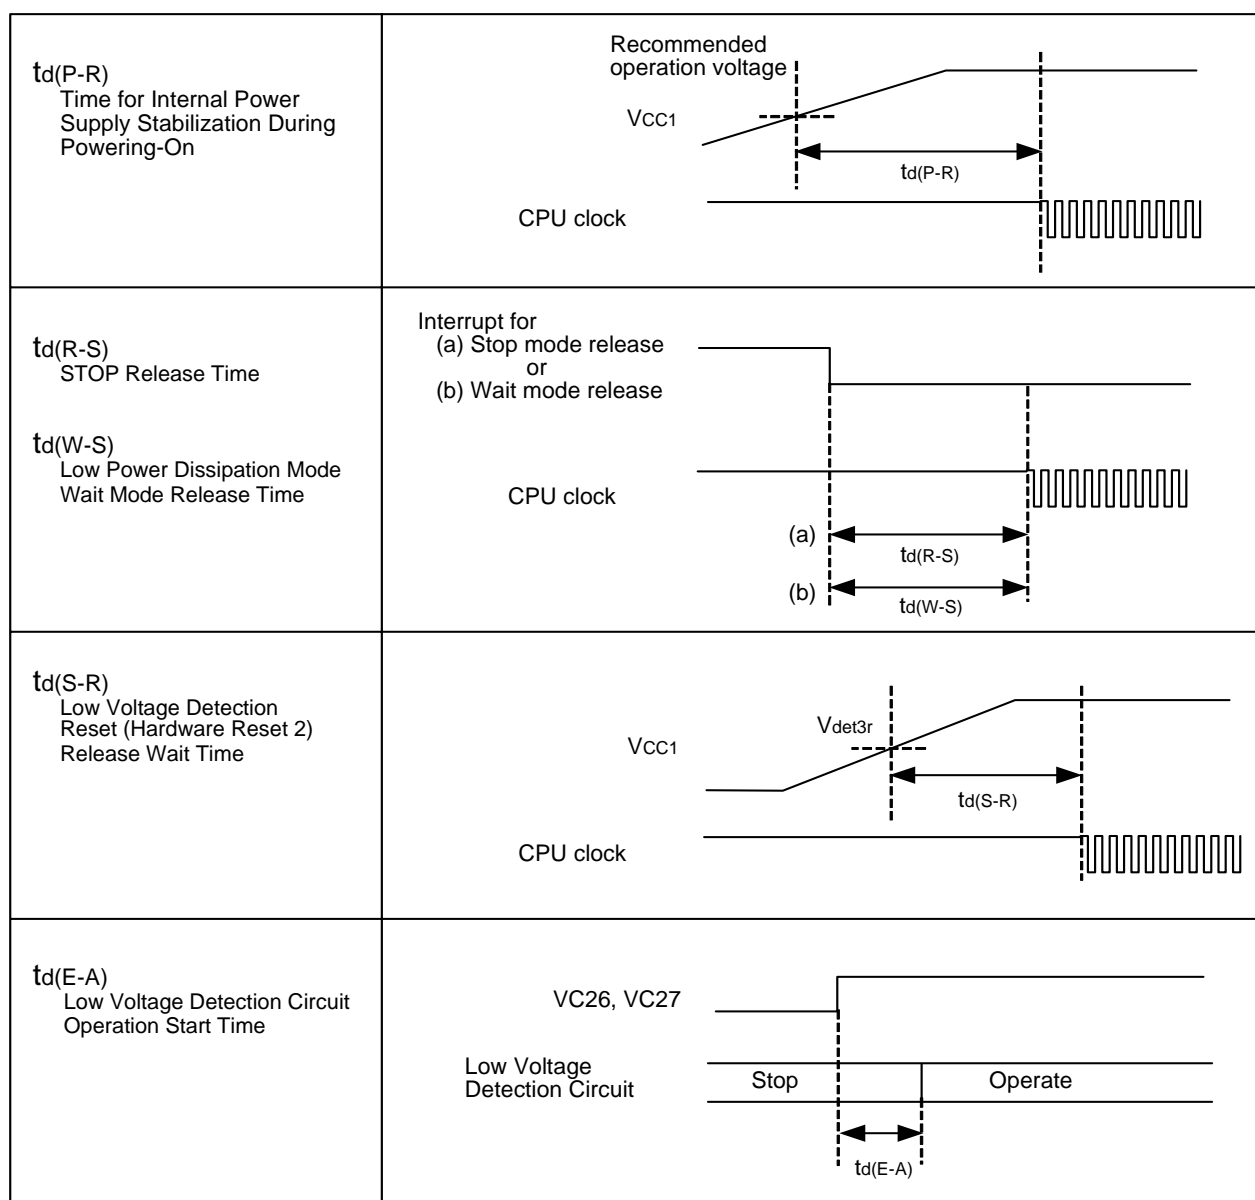
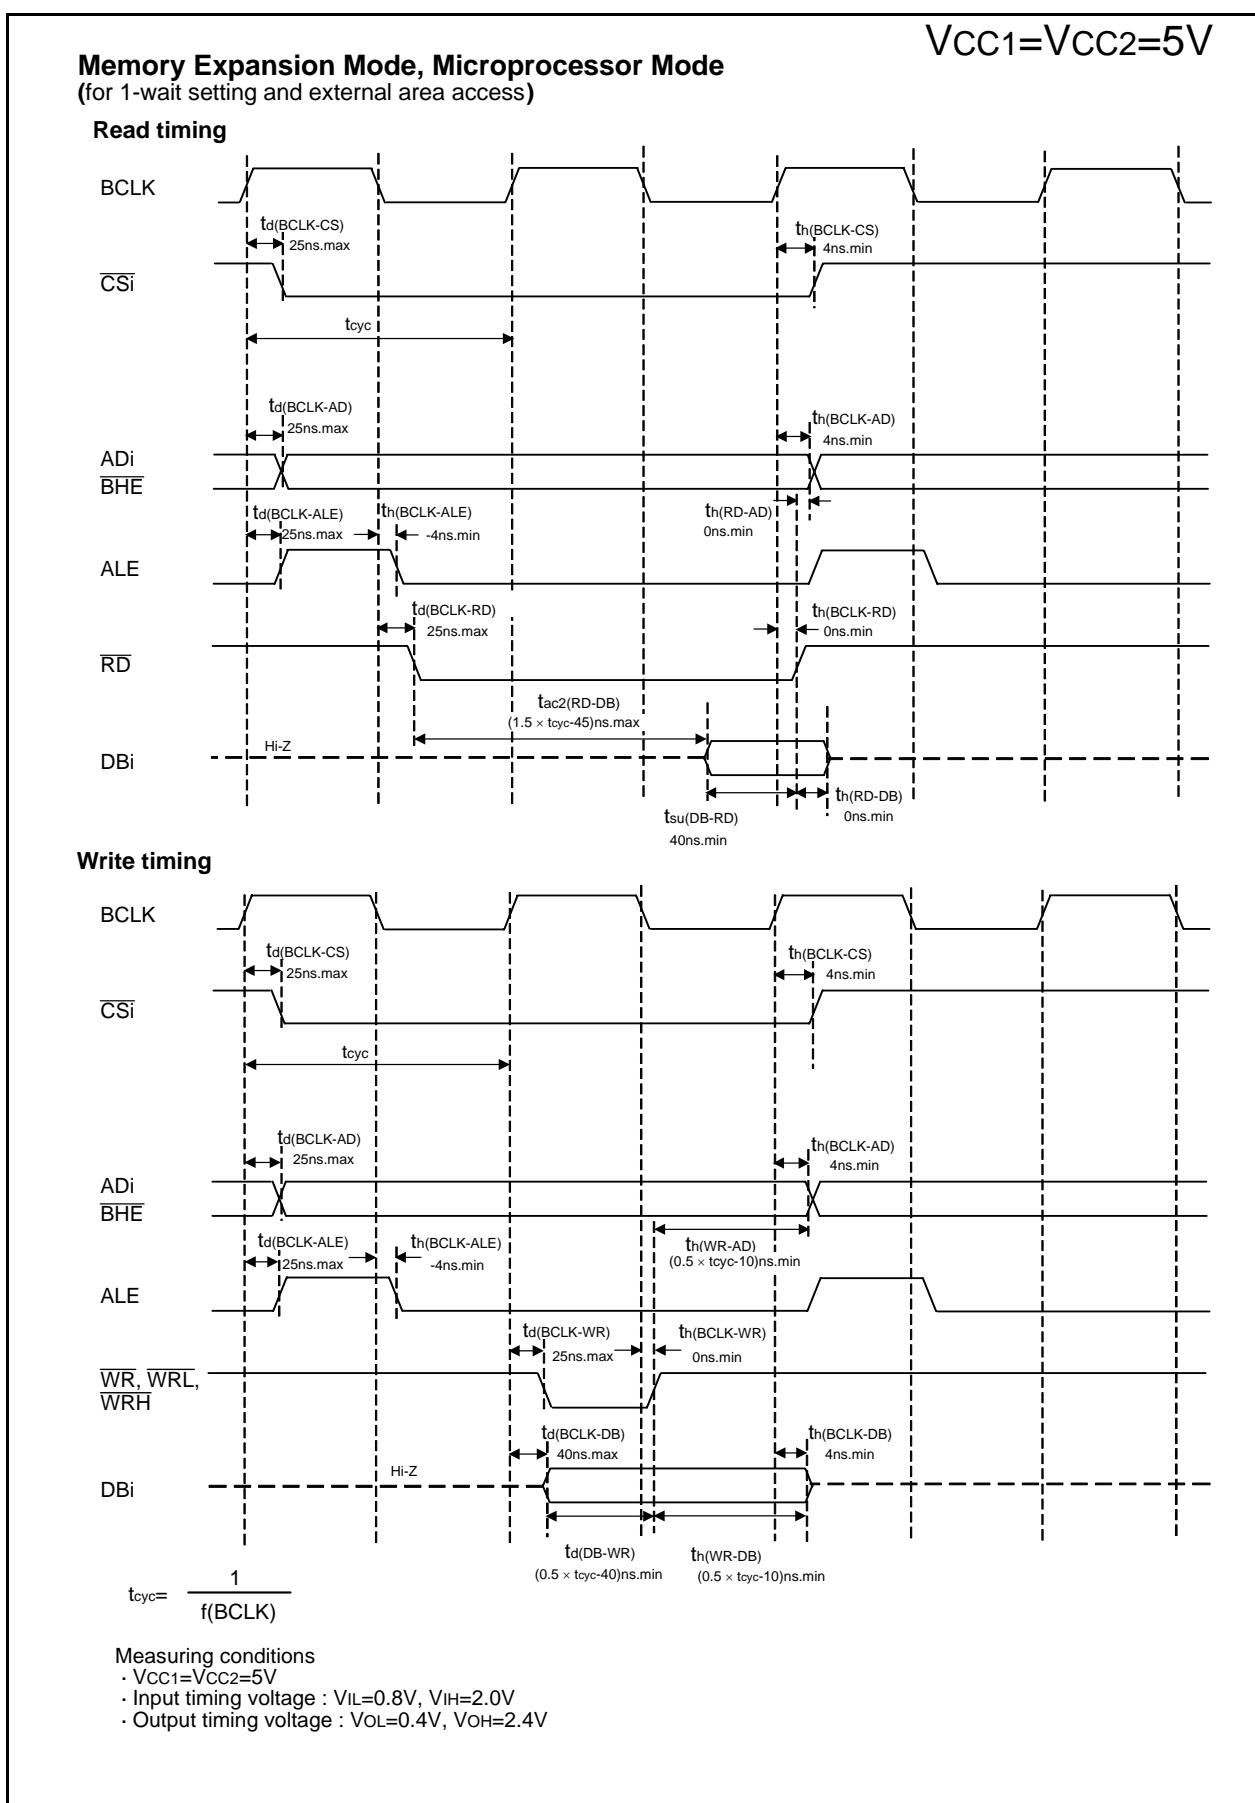

Figure 5.1 Power Supply Circuit Timing Diagram
Figure 5.7 Timing Diagram (5)
33 34,74 36 38,55 41 41-43, 58-60 44 47-48 49-50 52 53 58 61 64-65 66-67 69 70-85	Table 5.4 A-D Conversion Characteristics is revised. Table 5.5 D-A Conversion Characteristics revised. Table 5.6 to 5.7 and table 5.54 to 5.55 are revised. Table 5.11 is revised. Table 5.14 and 5.33 HLDA output deley time is deleted. Figure 5.1 is partly revised. Table 5.27 to 5.29 and table 5.46 to 48 HLDA output deley time is added. Figure 5.2 Timing Diagram (1) XIN input is added. Figure 5.5 to 5.6 Read timing DB → DBi Figure 5.7 to 5.8 Write timing DB → DBi Figure 5.10 DB → DBi Table 5.30 is revised. Figure 5.11 is partly revised. Figure 5.12 Timing Diagram (1) XIN input is added. Figure 5.15 to 5.16 Read timing DB → DBi Figure 5.17 to 5.18 Write timing DB → DBi Figure 5.20 DB → DBi Electrical Characteristics (M16C/62PT) is added.